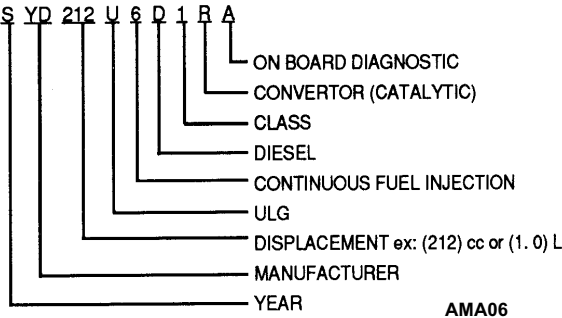

Figure 9: Engine Family Name
- b. Engine Family Name, as assigned by the California Air Resources Board, identifies engine family group, by largest displacement, within an engine family, and is shown in Figure 9.